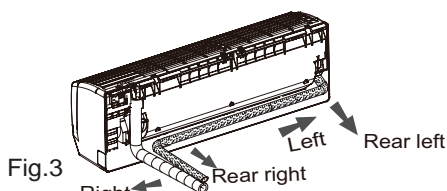

Fig.3
(1) The pipe can be led out in the direction of (right, rear right, left or rear left).(As show in Fig.3)